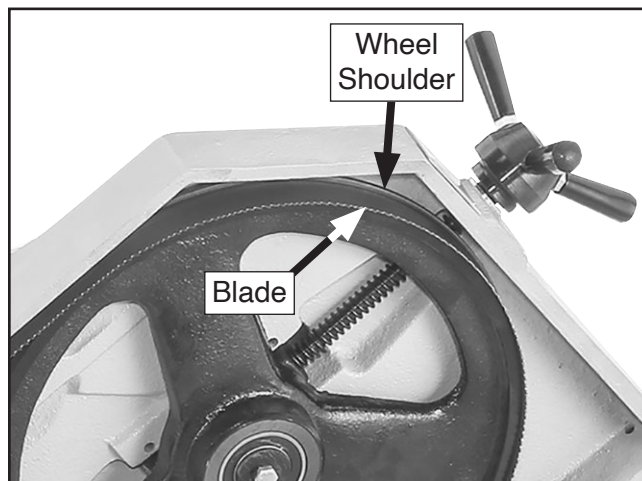

Figure 44. Blade installed on wheel.
11. Apply a light amount of tension to hold blade in place. Work around blade to adjust position so back of blade is against shoulder of wheels, as shown in **Figure 44**.